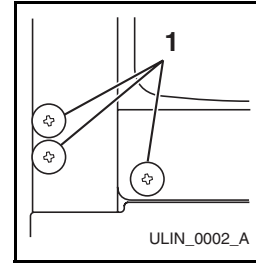

Figure 20
2. Remove plastic screw plugs (three each, top and bottom) (**Figure 20, 1**) from new hinge location. Do not discard.